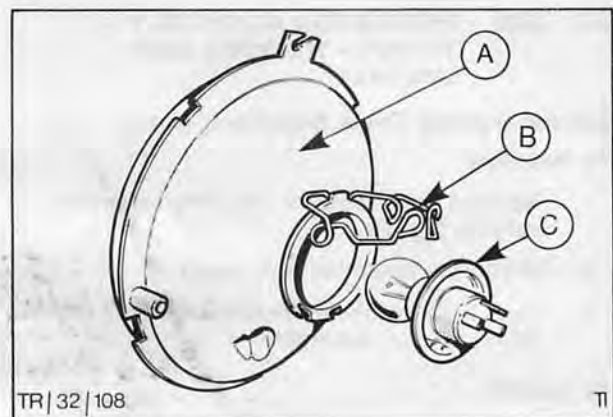

Fig. 8. A – Lamp unit
2. On semi-sealed headlamps release spring clip and remove bulb from rear of headlamp unit, Fig. 8.